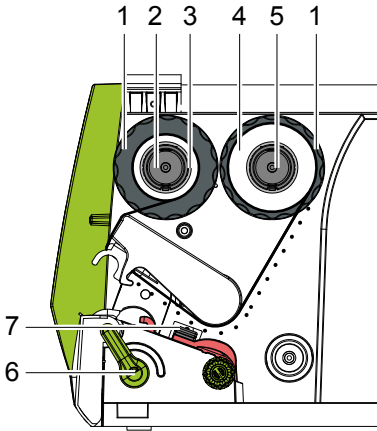

Fig. 9 Transfer Ribbon Feed Path
5. Adjust position of the guide on the take-up hub to the width of the ribbon core (3) and push ribbon core on the take-up hub (2).
6. Guide transfer ribbon through the printing unit as shown in Fig. 9.
▶ **Guide transfer ribbon over the label sensor (7).**
7. Secure starting end of the transfer ribbon to the ribbon core (3) using adhesive tape. Ensure counterclockwise rotation direction of the transfer ribbon take-up hub.
8. Turn transfer ribbon take-up hub (2) counterclockwise to smooth out the feed path of the transfer ribbon.
9. Press printhead down and turn lever (6) clockwise to lock printhead.